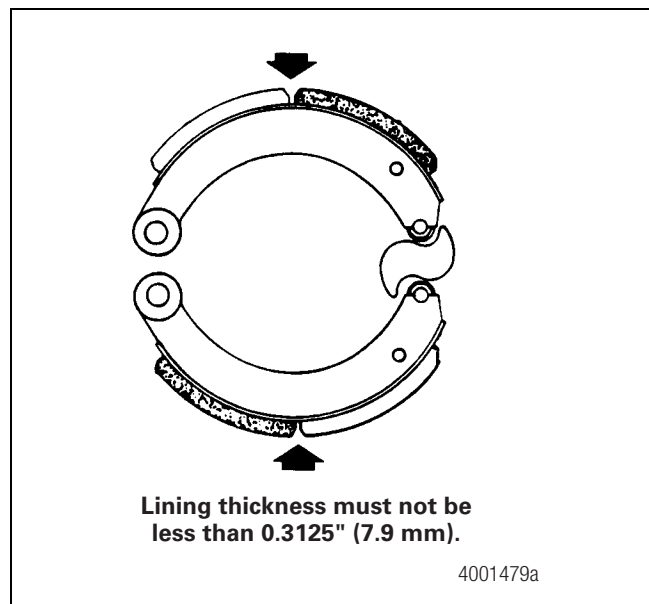

Figure 5.9
1. Check the brake lining. Figure 5.9. Brake lining thickness must be the same on both brake shoes and on both axle brakes.